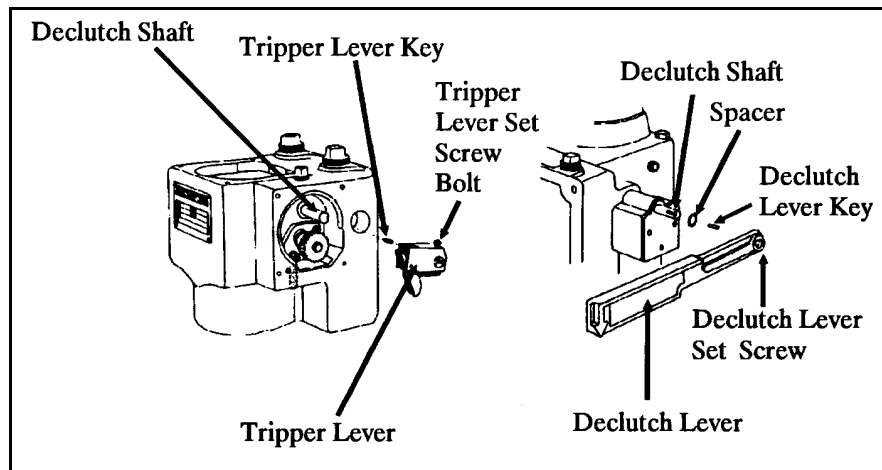

Figure 4-45 Declutch Lever / Tripper Lever Installation
25. Declutch Lever and Tripper Lever Installation Refer to Figure 4-45